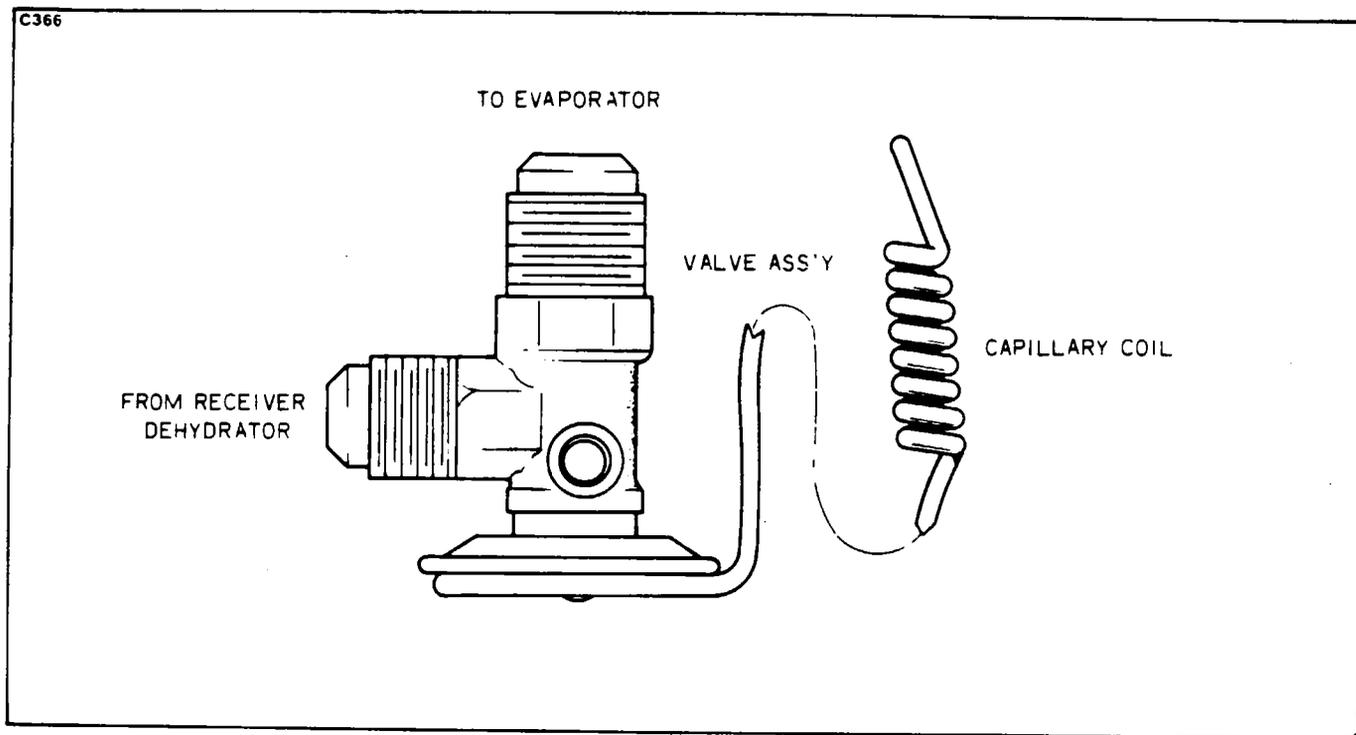

Figure 21-38. Expansion Valve (Typical)
**EXPANSION VALVE REMOVAL.** (Refer to Figure 21-38.)
**EXPANSION VALVE INSTALLATION.** (Refer to Figure 21-38.)